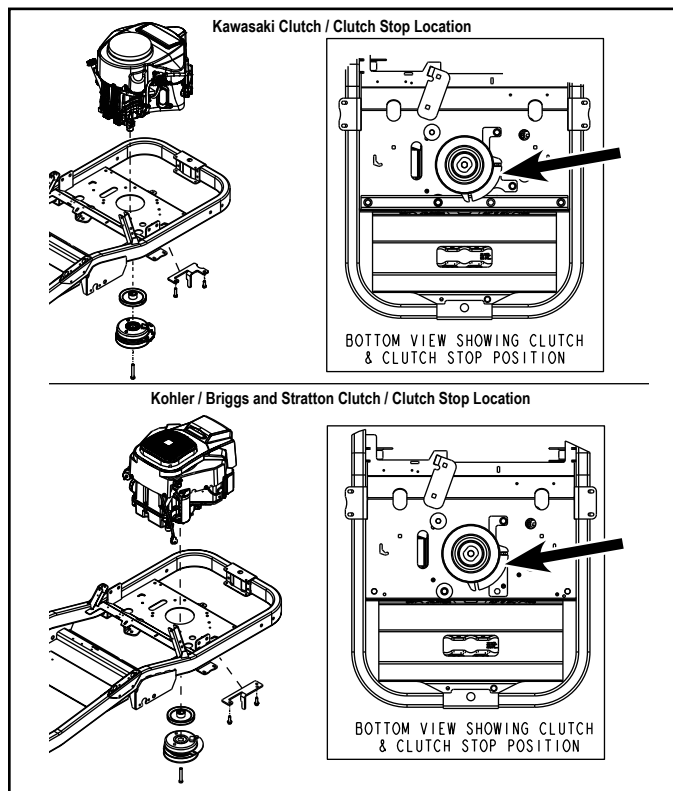

Fig. 076
6. Install the PTO clutch. Be sure the PTO clutch stop bracket is properly engaged into the clutch slot (Fig. 076).